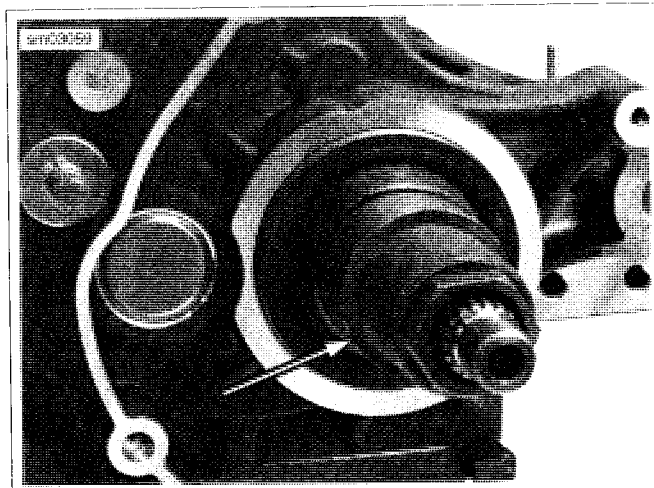

Figure 6-46. Install Adapter
4. See Figure 6-46. Thread **ADAPTER** (Part No. HD-47856-3) onto end of main drive gear until it contacts main drive gear.